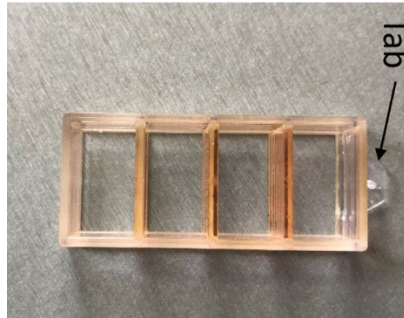

Figure 1. Counting chamber with 4 sections.
- Use the 4-section counting chamber (Fig. 1) to minimize count time.